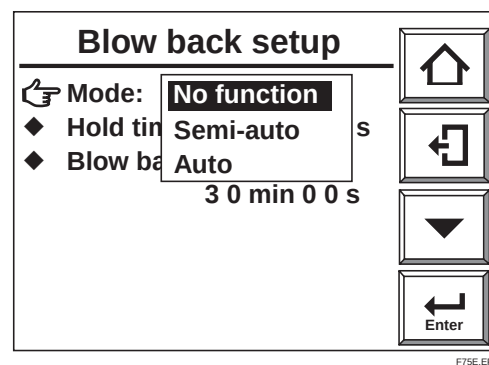

Fig. 10.23 Mode Selection
- 2) On the [Maintenance] display, select [Blow back setup] and the Mode selection pull-down allows you to select between [No function], [Semi-auto] and [Auto] (see Fig. 10.23).